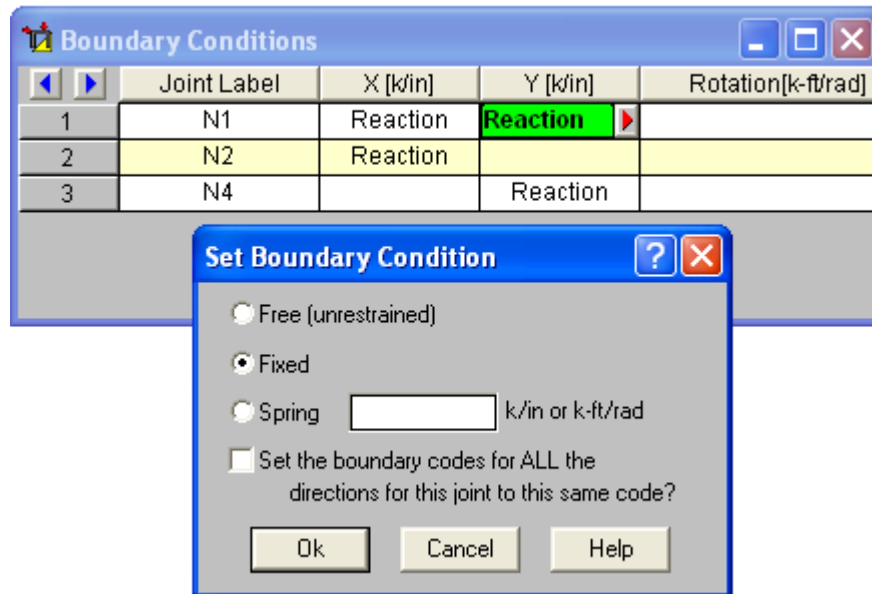

Figure 8
- (4) To produce the table that defines the joint restraints (Figure 8), return to the **Data Entry** box and click **Boundary Conditions**.
- Click the red arrow to produce a box labeled **Set Boundary Condition** (Figure 8).
After this line is complete, a short horizontal line will appear on the grid at Joint N2, representing the horizontal reaction provided by the roller (Figure 11). Complete the table for the vertical restraint at Joint N4 and observe that a short vertical line, representing the vertical reaction, appears on the graph. When you are finished specifying reactions, close the box by checking the **X** at the top right corner. For final results, see Figure 8.